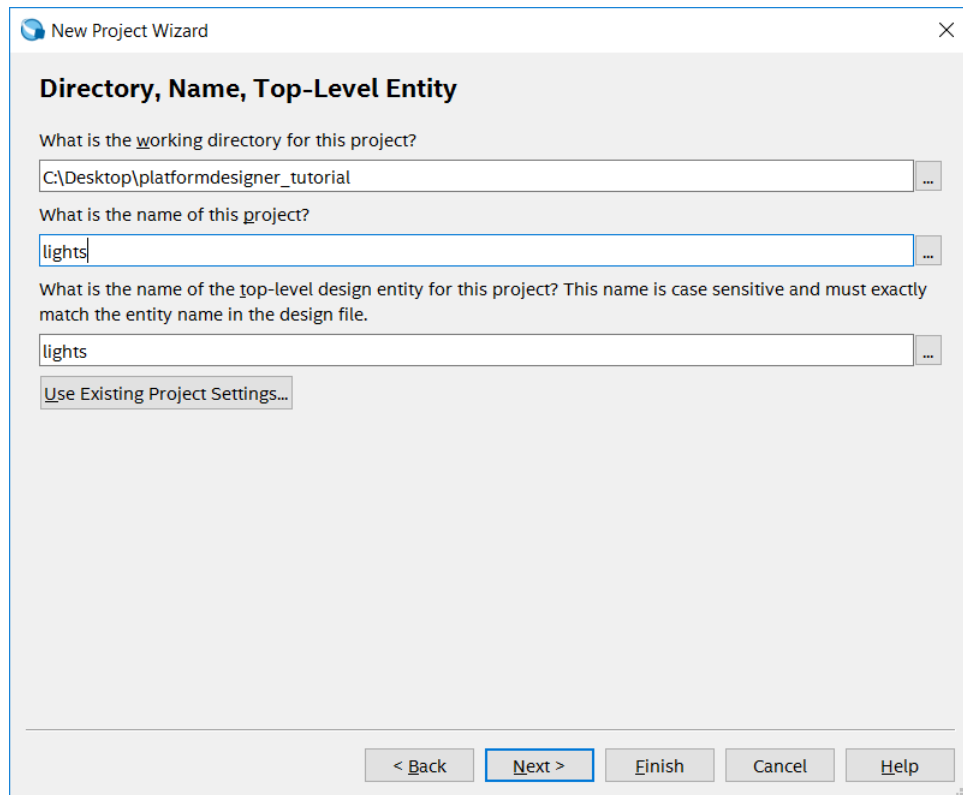

Figure 3. Create a new project.
1. Create a new Quartus Prime project for your system. As shown in Figure 3, we stored our project in a directory called *platformdesigner_tutorial*, and we assigned the name *lights* to both the project and its top-level design entity. You can choose a different directory or project name. Step through the screen for adding design files to the project; we will add the required files later in the tutorial. In your project, choose the FPGA device used on your DE-series board. A list of FPGA devices on the DE-series boards is given in Table 1.